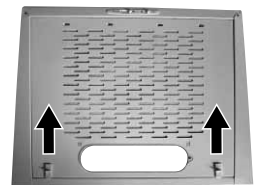

Fig. 1
1. By shifting plastic stoppers, demount the bottom metal cover of the appliance (Fig. 1).
1. By shifting the plastic stoppers, demount the bottom metal cover of the appliance (Fig. 1).